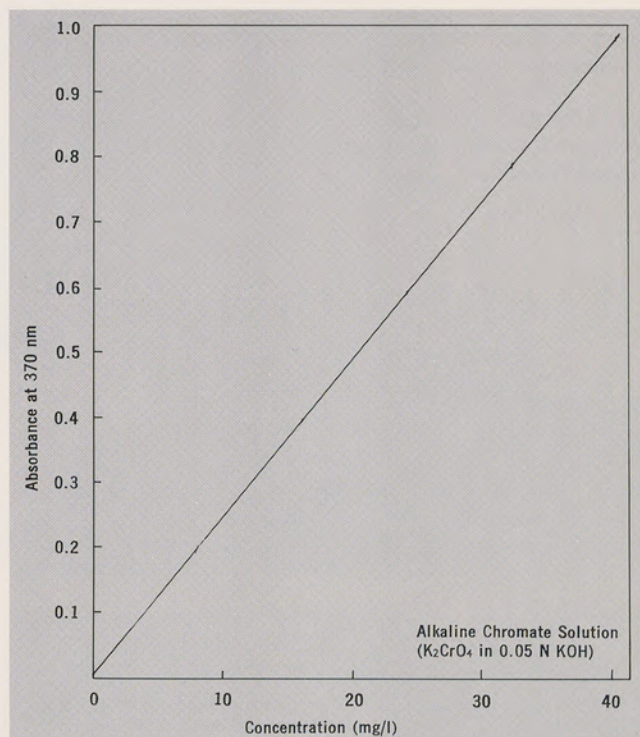

Figure 13. Chromate Linearity Check
11. Plot absorbance versus K_2CrO_4 concentration (mg/l) on linear graph paper. A typical linearity curve is given in Figure 13.
All of the recorder operating controls are shown in Figure 13.